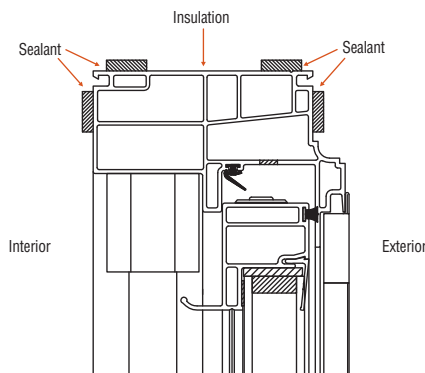

fig. 2
- Due to the variables in custom installations it is the job of the installer to determine how the window is going to be sealed to the exterior plane of the building. It is recommended that the window be sealed in a minimum of two areas of the window. See **fig. 2** for a few recommended areas to apply sealant. The window can be positioned into sealant or sealed after the window is anchored into the opening.